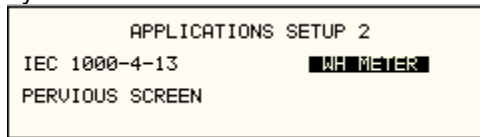

Figure 9-139: Application Screen
- From the Menu screen 2, select the APPLICATIONS SETUP 2 screen. The screen will appear as shown in Figure 9-139. Use the up and down key to position the cursor to the WH METER field. Press the Enter Key.